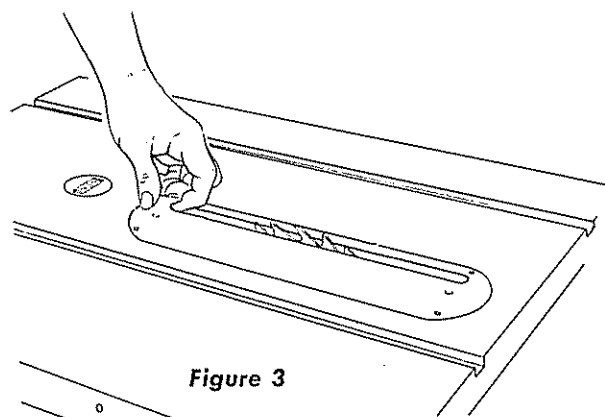
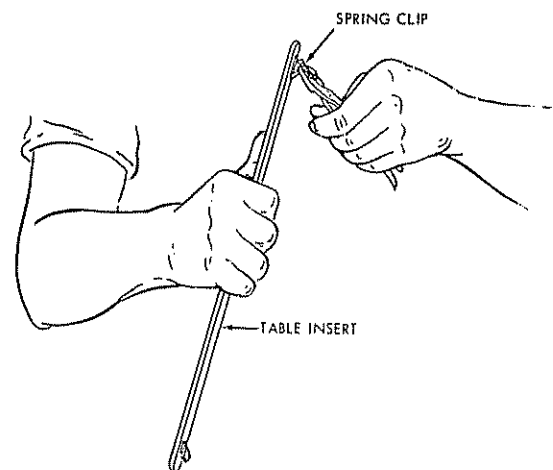

Figure 3
Figure 14
4. Remove the table insert, by inserting a finger into the slot at one end of the insert and lifting it upward and out. (See figure 3.)
- b. The spring clips should have enough tension to hold the table insert firmly in position in saw table. If insert is loose, lift the insert out (figure 3) and, with pliers, bend the spring clips carefully until they hold the insert securely (See figure 14.) Several trials may be required.